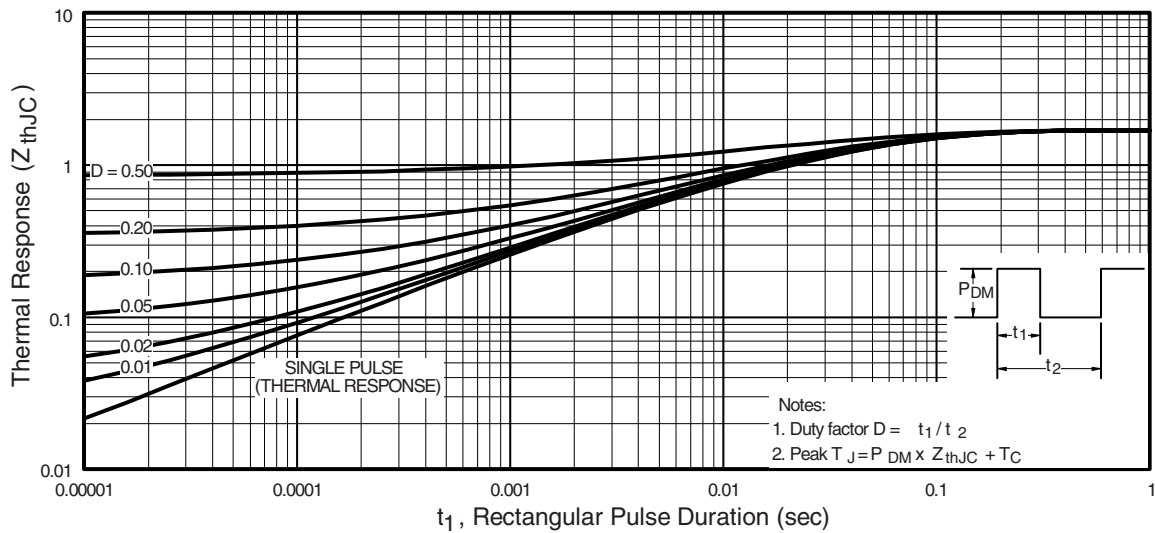

Fig. 11 - Maximum Effective Transient Thermal Impedance, Junction-to-Case
- a. Repetitive rating; pulse width limited by maximum junction temperature (see fig. 11).
- Repetitive rating; pulse width limited by maximum junction temperature (see fig. 11).